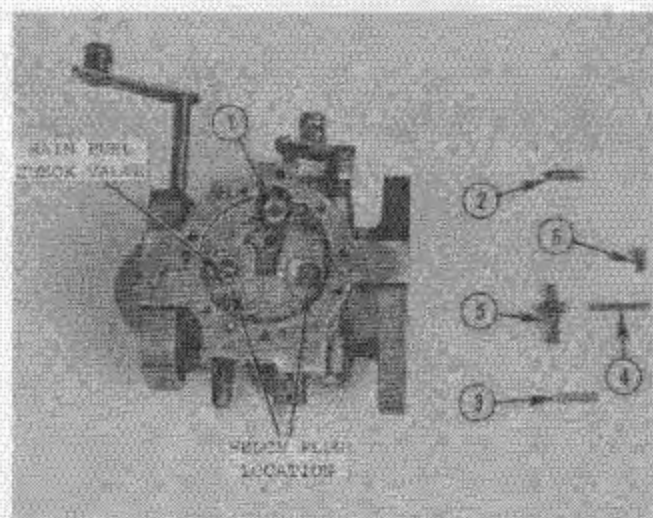

Fig. 29 — Inlet Control Lever Removed — HR Carburetor
b. Refer to Figs. 29 or 30 and remove parts in reverse of number sequence for disassembly.
a. Refer to Figs. 29 or 30 and install parts in sequence number given to the parts (1 through 6).